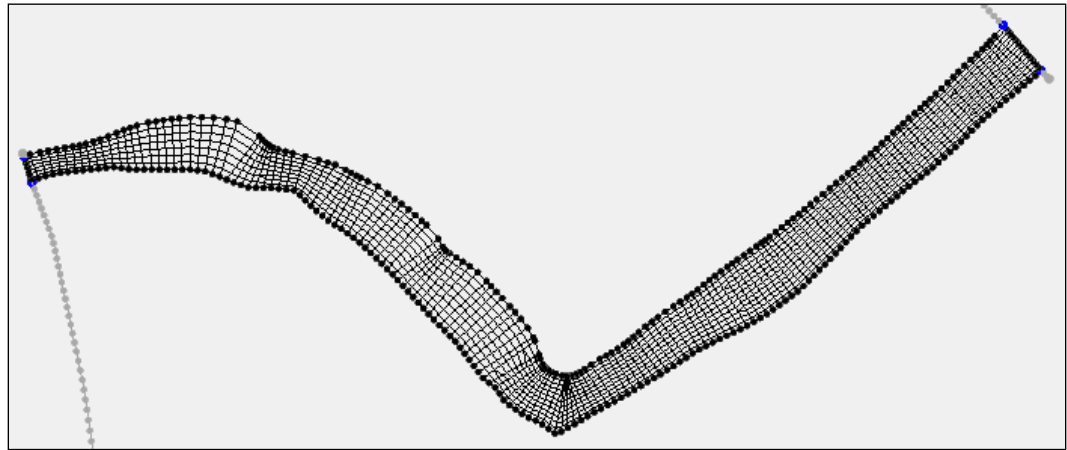

Figure 8 Redistribution using a source arc
15. Notice the patch shows the target arc vertices aligning with the source arc vertices as seen in Figure 8.